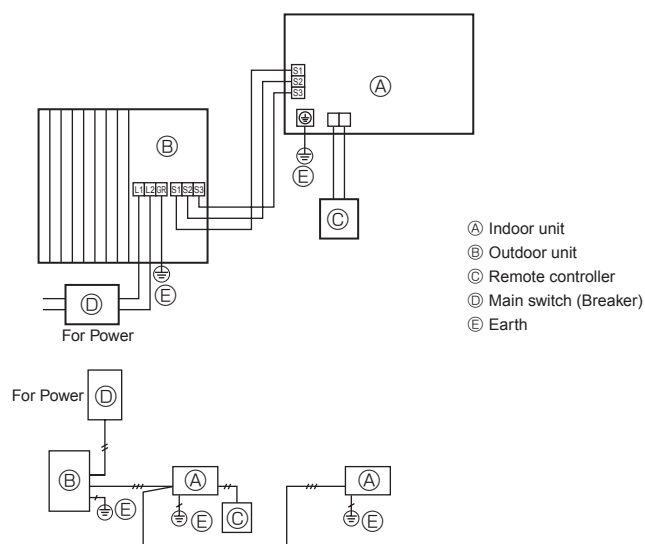

Fig. 6-1
6.1. Outdoor unit (Fig. 6-1, Fig. 6-2)
- ① Remove the service panel.
- ② Wire the cables referring to the Fig. 6-1 and the Fig. 6-2.